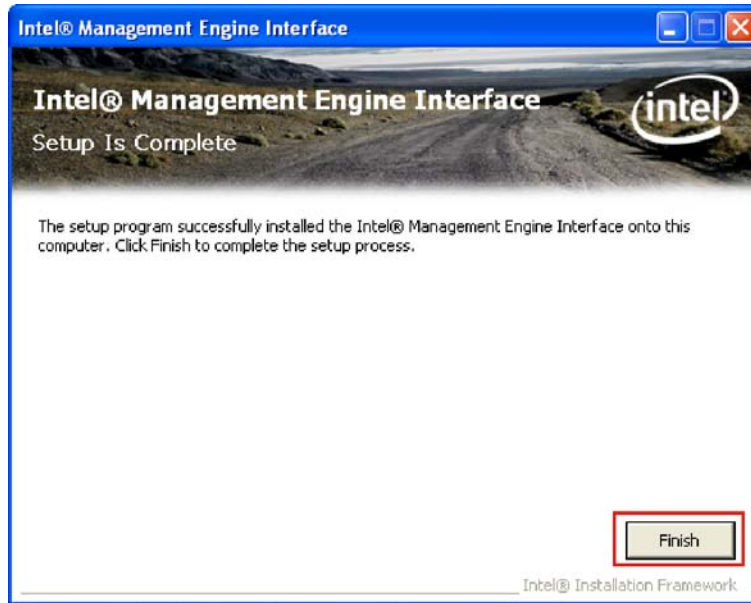

Figure 6-41: Completed Installation
Step 9: The final installation screen appears (Figure 6-41).